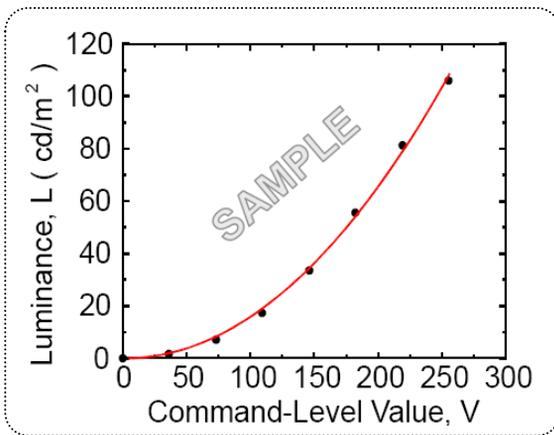

Figure.12 Sample Luminance vs. gray scale (using a 256 bit gray scale)
8. **GSR** is the rate of gamma shift at up, down, left and right 60 degree viewing angle compare with center gamma. For more information see FIG.11 and FIG.12 (**By EZ Contrast**)